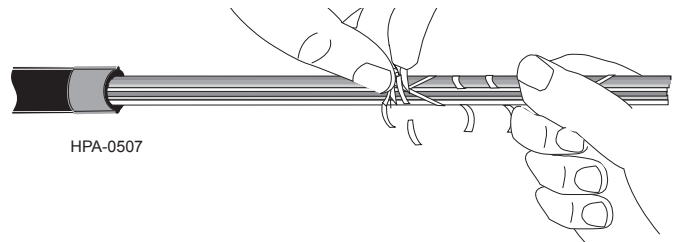

Figure 24
Step 10: Gently remove the cut binding tapes from the buffer tubes (Figure 24). You may need to cut the resulting bundles of binding tape with scissors to remove them from the cable core.